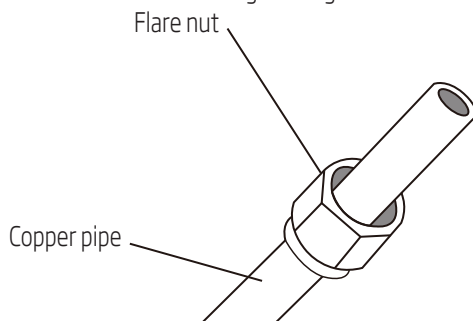

Fig. 7.3
3. Place flare nuts on both ends of pipe. Make sure they are facing in the right direction, because you can't put them on or change their direction after flaring. See Fig. 7.3.